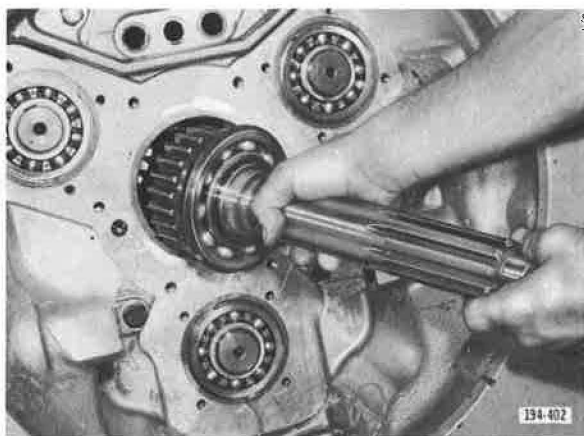

Figure 5-710. Removing Main Drive Pinion
15. Remove main drive pinion assembly from front case. See **Figure 5-710.**